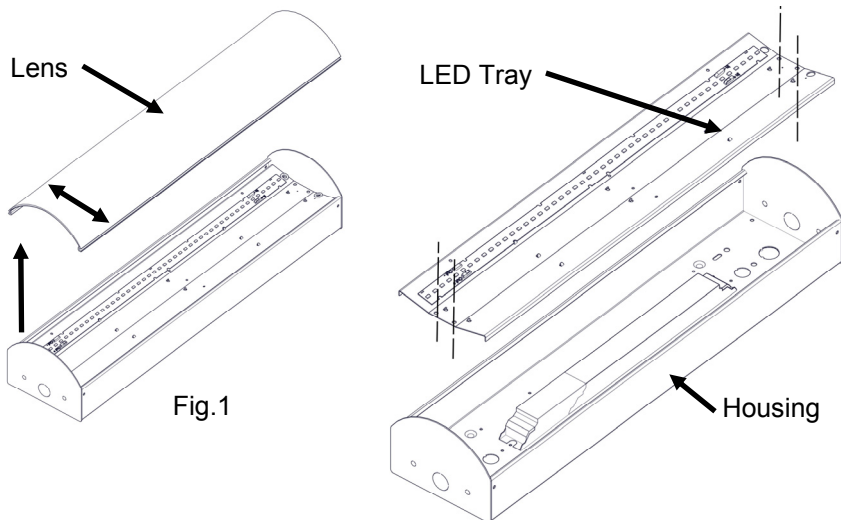

Fig.1
3. Gently squeeze and remove lens from luminaire Fig.1.